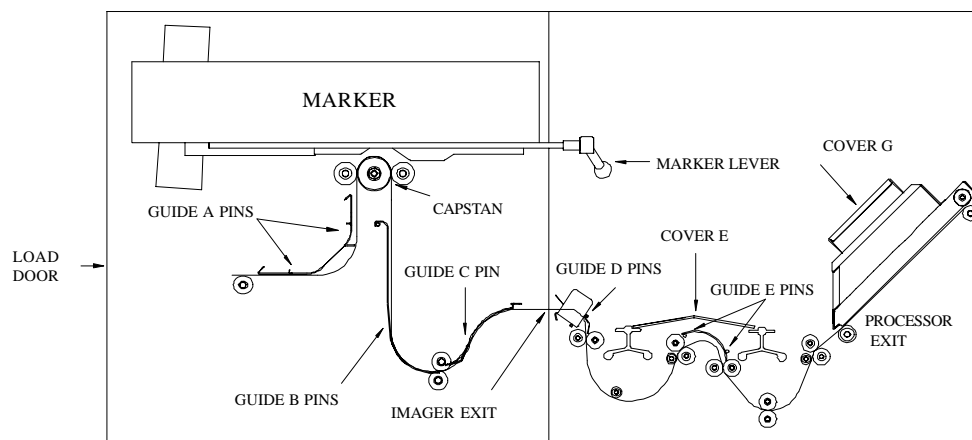

Figure 7-1a Clearing Media Path (standard model)
1. Open the load door and pull on the load knob. Raise marker by pulling marker lever fully toward the front of the Platesetter. Gently lift up the marker (see Figure 7-1a).